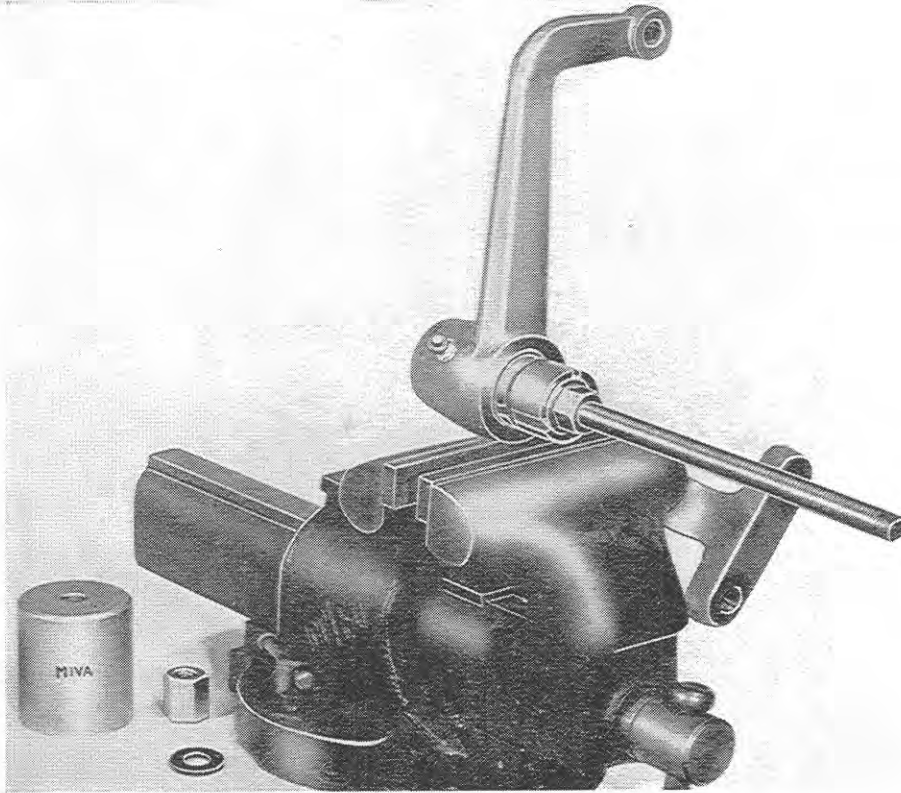

Fig. 4
- 3) Extract, one at a time, the bushes from the double crank, using tool MIVA (Fig. 4 and 5).